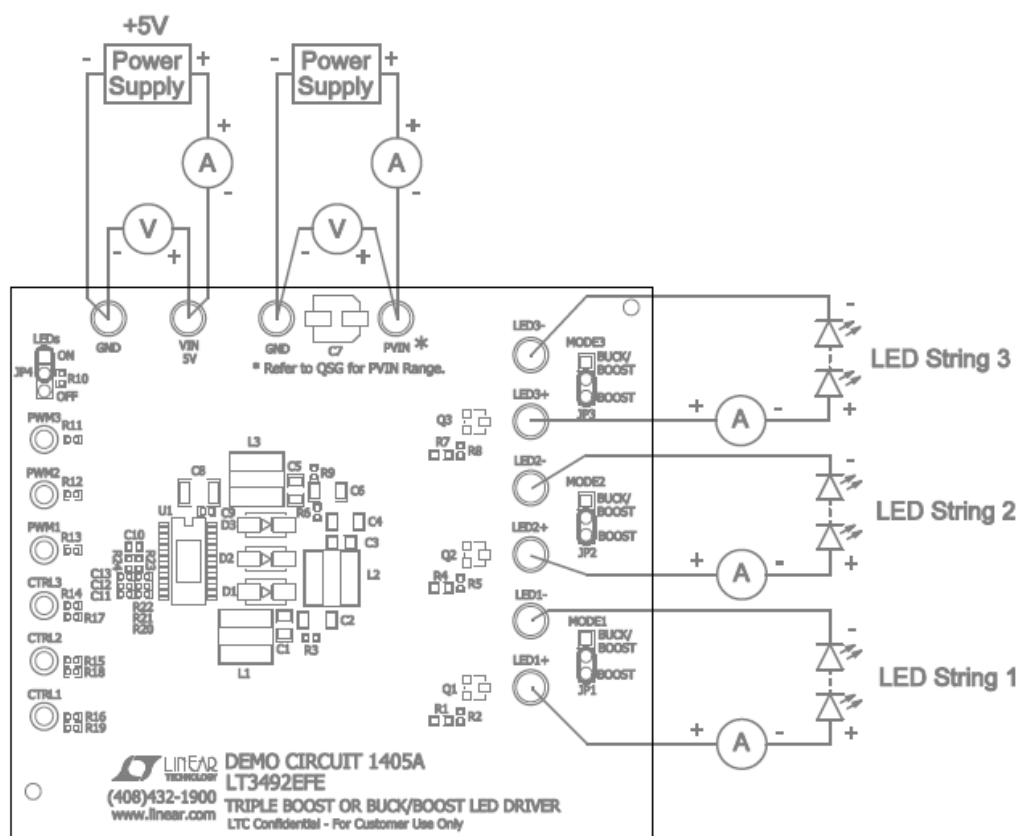

Figure 1. Proper Measurement Equipment Setup (LEDs on the High Side)
4. Connect LED strings as shown in Figure 1.